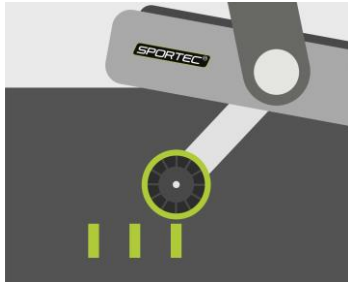
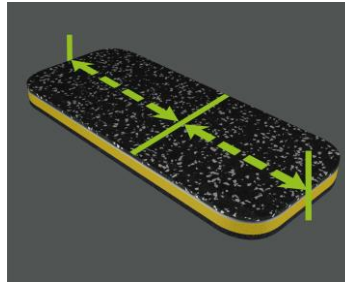

Fig. 3 Marking the middle
Fig. 4: Marking the middle of the pad
- Now mark the middle between the two points (Fig. 3) and the middle of the pad must be marked as well ($380\text{mm}/2 = 190\text{mm}$) (Fig. 4).